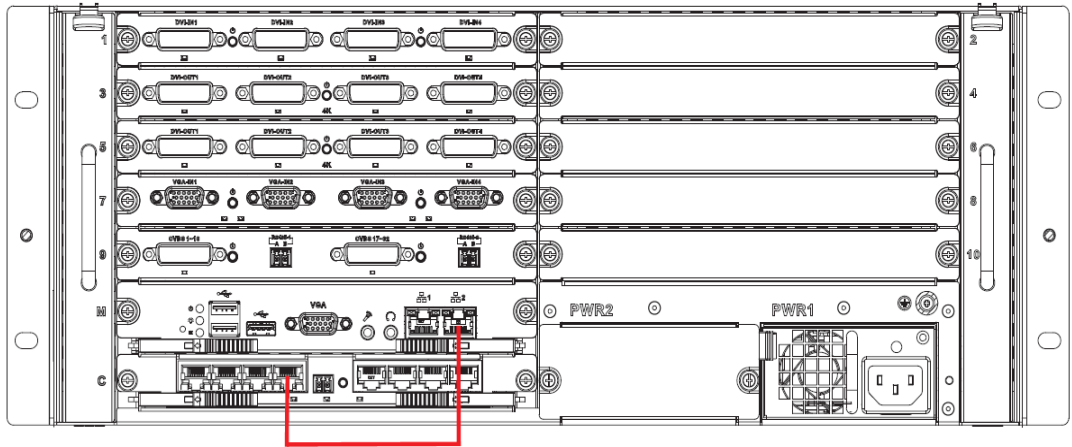

Figure 2-5
Step 6 Connect network interface 2 of main control panel and network interface of control panel with a gigabit network cable; connect network interface 1 of main control panel and client network, as shown in Figure 2-5.